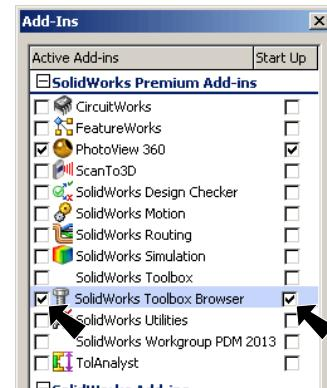

Fig. 1
Step 3. Check **SolidWorks Toolbox Browser** to place a check in the check box, then click OK, **Fig. 1**.